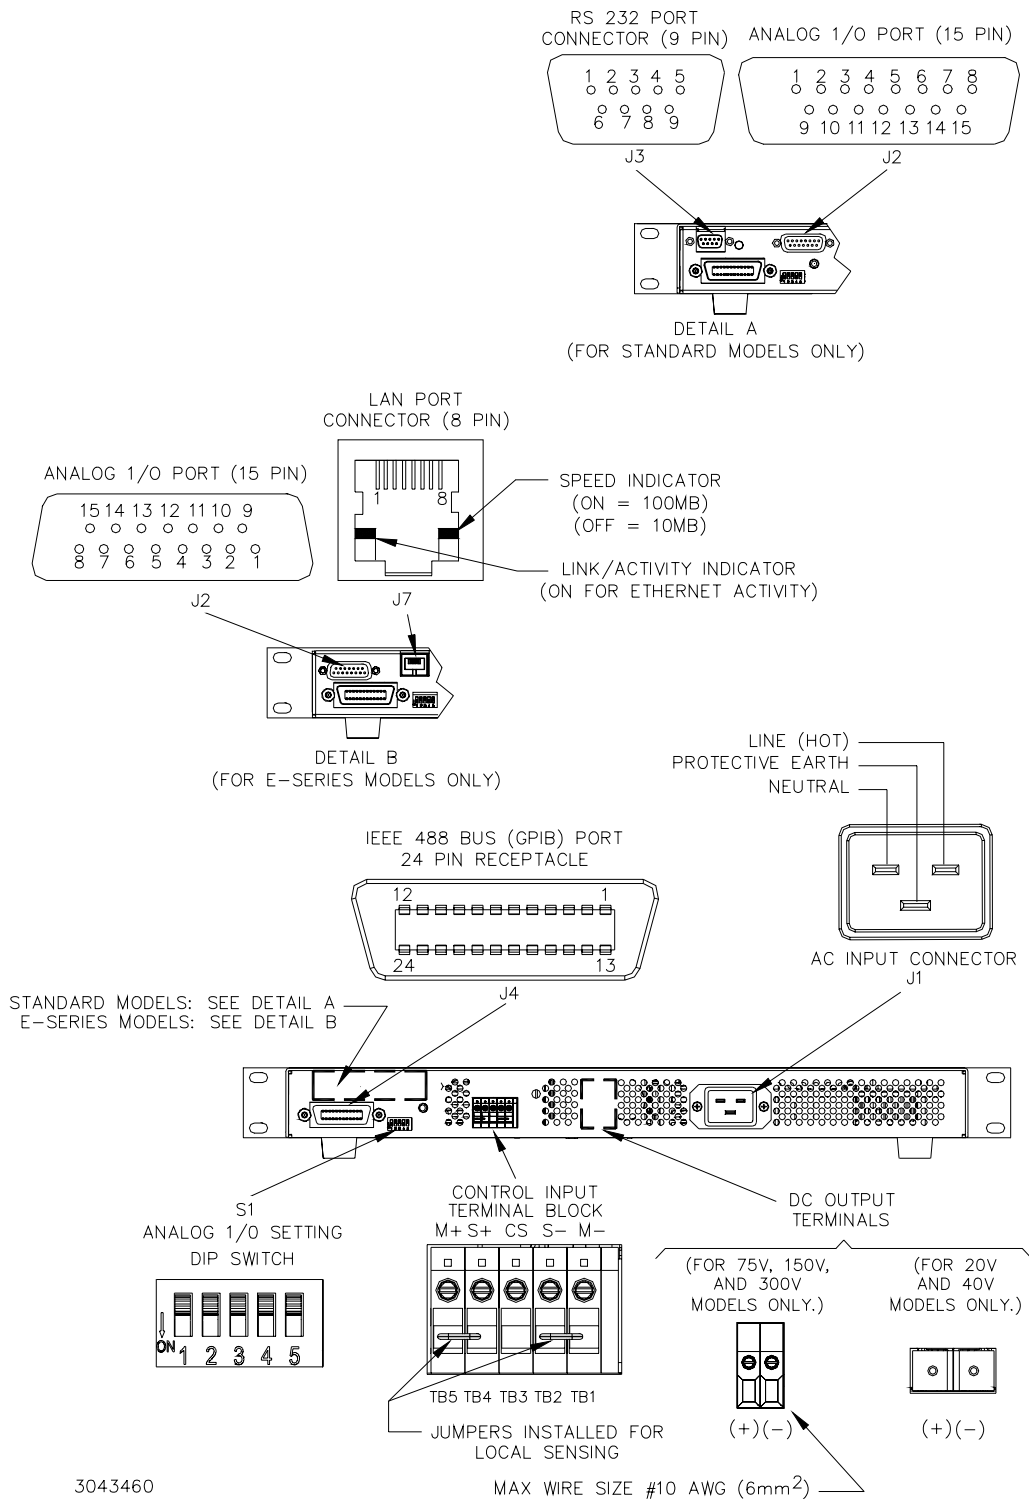

FIGURE 2-2. KLR SERIES, REAR PANEL SWITCH AND CONNECTORS
2.2.2 REAR PANEL CONNECTORS AND SWITCHES. Refer to Figure 2-2 and Tables 2-2 through 2-7.